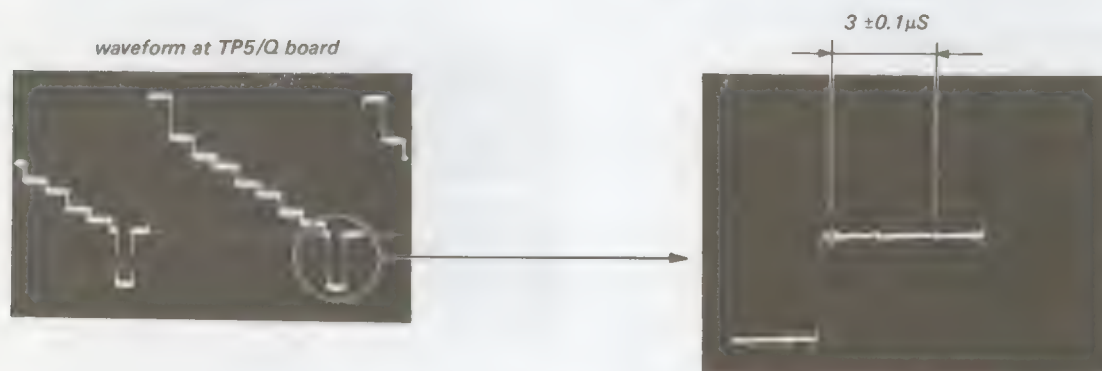

Fig. 5-37.
3. Adjust RV 5 on the Q board for a clamp pulse width of $3 \mu s$. (See Fig. 5-37.)